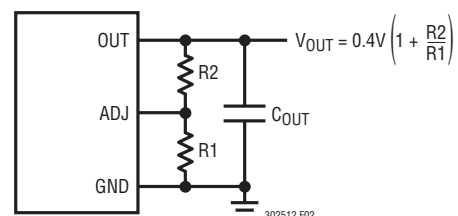

Figure 2. Programming the LTC3025-1
**ADJ (Pin 5) LTC3025-1:** Adjust Input. This is the input to the error amplifier. The ADJ pin reference voltage is 0.4V referenced to ground. The output voltage range is 0.4V to 3.6V and is typically set by connecting ADJ to a resistor divider from OUT to GND. See Figure 2.
The output voltage is set by the ratio of two external resistors as shown in Figure 2. The device servos the output to maintain the ADJ pin voltage at 0.4V (referenced to ground). Thus the current in R1 is equal to  $0.4\text{V}/R1$ . For good transient response, stability, and accuracy, the current in R1 should be at least 8 $\mu\text{A}$ , thus the value of R1 should be no greater than 50k. The current in R2 is the current in R1 plus the ADJ pin bias current. Since the ADJ pin bias current is typically <10nA, it can be ignored in the output voltage calculation. The output voltage can be calculated using the formula in Figure 2. Note that in shutdown the output is turned off and the divider current will be zero once  $C_{OUT}$  is discharged.